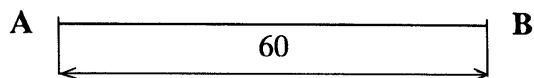

Fig.4
- (a) Construct, on line A-B, a triangle with sides of 60, 50, and 30 millimetres in Fig.4